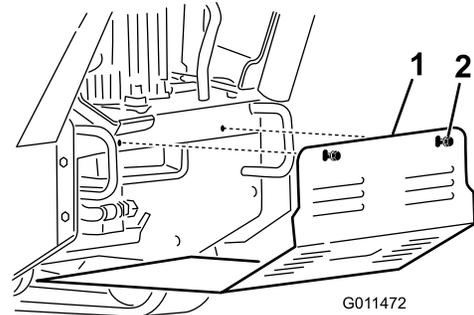

Figure 26
2. Loosen the 2 bolts securing the bottom shield sequentially until the shield is free (Figure 26).
2. Slide the bottom shield into the machine so that it rests on all 4 tabs (Figure 26).